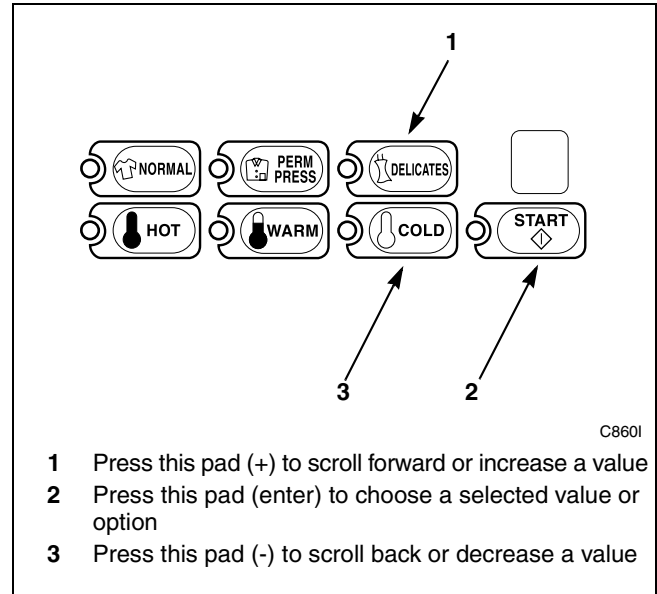

Figure 152
5. Press the DELICATES (+) or the COLD (-) keypad to increase or decrease the current number of minutes displayed in the VFD to the desired number of minutes. Refer to *Figure 152*.